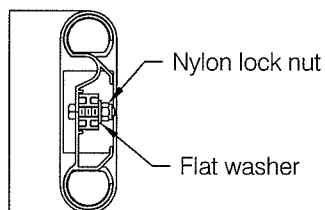

fig 5
*Caution:* Do not use a lock washer, use flat washer only. Always place a flat washer between nut and molded tab. Tighten to 10 ft-lbs maximum torque, see **fig 5**.